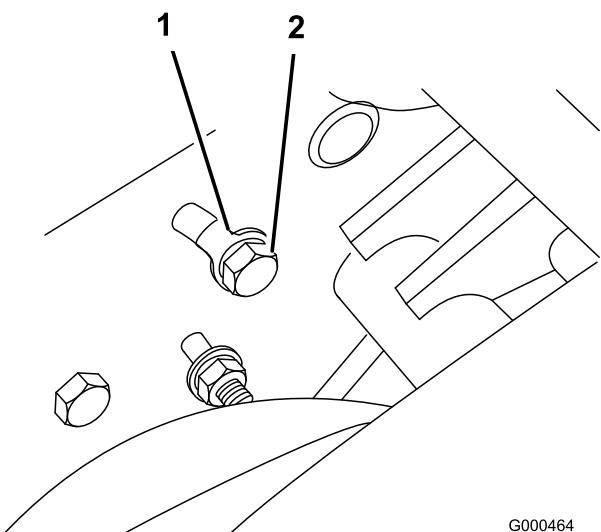

**Figure 42**
2. Check tension by depressing belt (Figure 42) at mid span of pulleys with  $4 \pm 1$  lb of force. Belt should deflect  $3/16$  to  $5/16$  inch (4.8 to 7.9 mm). If the deflection is incorrect, proceed to next step.